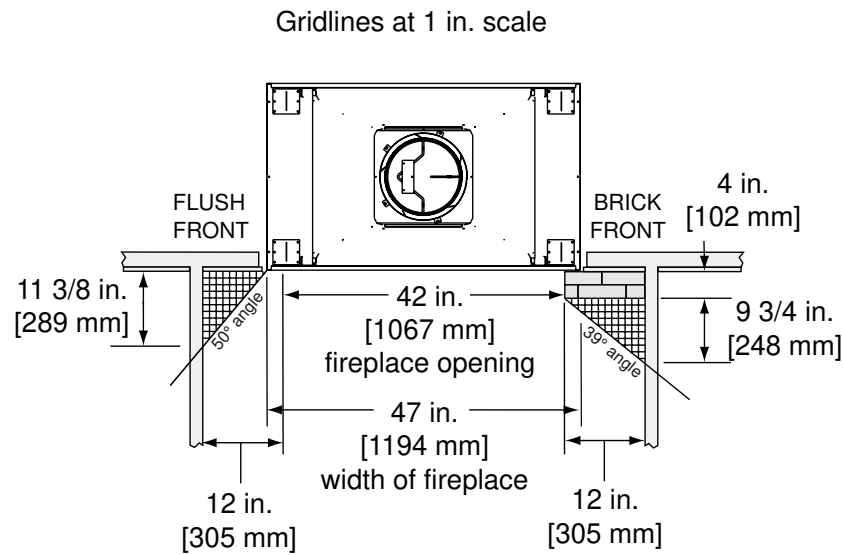

Figure 6.3 Mantel Leg or Wall Projections (Acceptable on both sides of fireplace)
- Combustible and non-combustible mantel legs, surrounds and stub walls may be constructed within the gridded area, Figure 6.3.